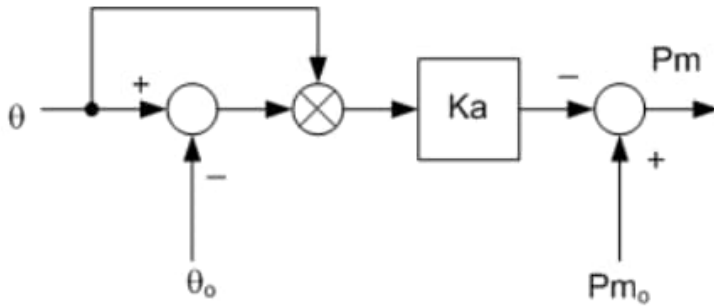

Figure 4 WTGA_A model [7].
3. WTGA_A – which is the linear model of the turbine aero-dynamics (see Figure 4). This model is used for type 3 WTG plants.